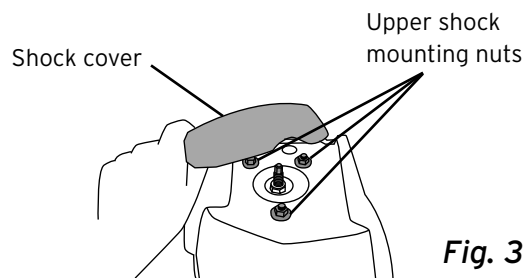

Fig. 3
2. Locate the shock cover under the hood of the car (Fig. 3).